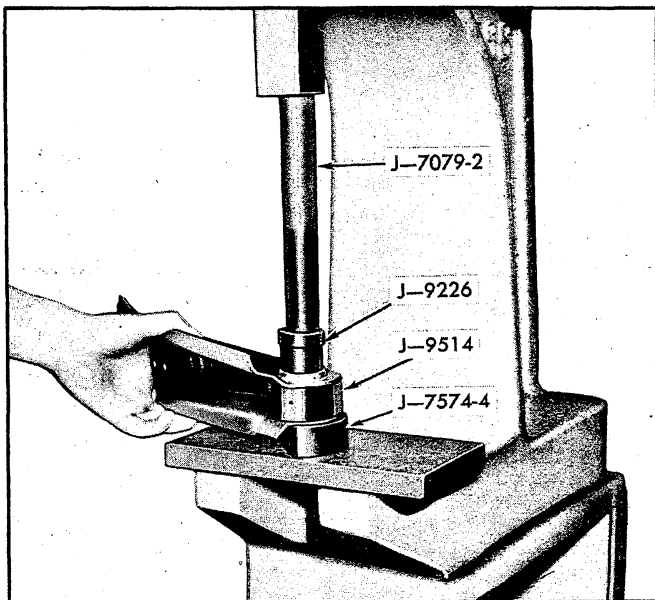

Fig. 34 - Removing Lower Control Arm Pivot Bushing - Chevy II
1. Support control arm on Tool J-7574-4 and insert Spacer J-9514 (fig. 34).
2. Press bushing out with Tool J-9226 and Handle J-7079-2 (fig. 34).